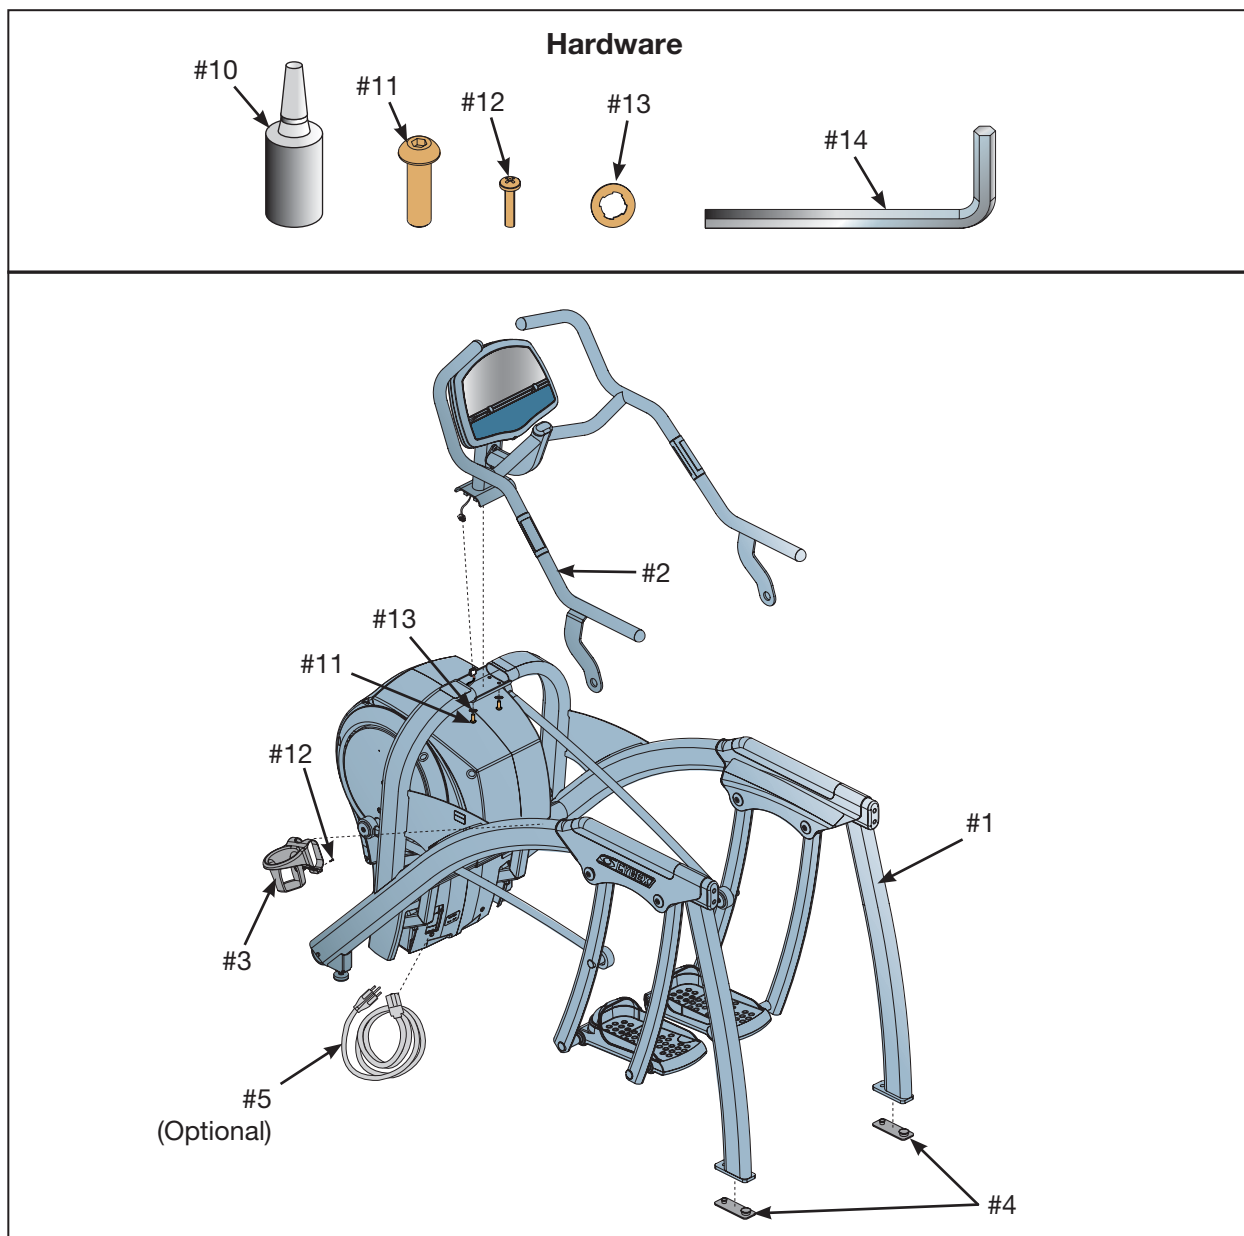

Figure 2
E. Check off (☒) each item in the hardware pack as you find it. See Figure 2.